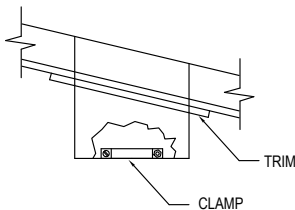

Figure 23
8. Place the Pipe Clamp, (which comes as a component of the Support Box) around the top of the hole in the bottom of the Support Box (Figure 23).